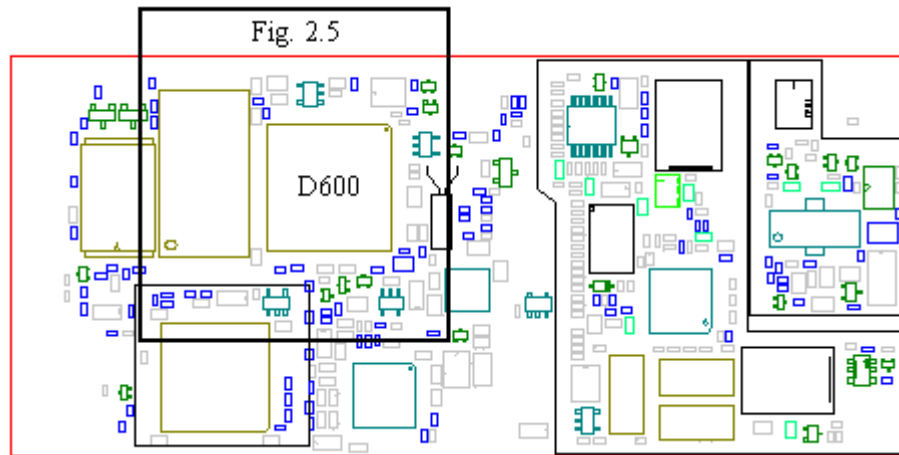

Fig. 2.3
- If the resistance is **low** all the time, replace the corresponding microswitch. If that doesn't help, check the solderings at D600 pads 1, 123, 124 and 128. If the solderings are correct, replace D600 (class B, fig. 2.3).
- If that doesn't help, check the solderings at D600 pads 1, 123, 124 and 128. If the solderings are correct, replace D600 (class B, fig. 2.3).